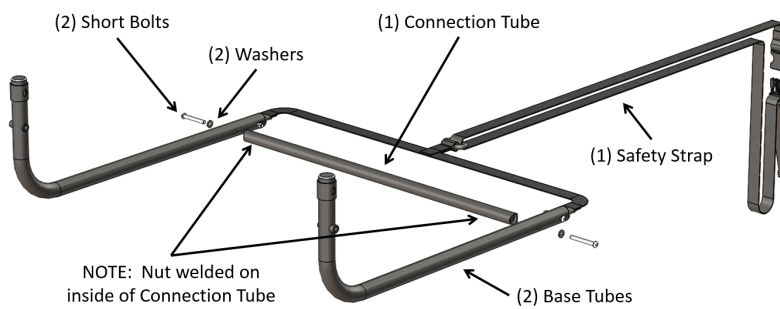

FIGURE 2
2. Use the ALLEN WRENCH to attach the CONNECTION TUBE to the BASE TUBES using the SHORT BOLTS and WASHERS as shown in Figure 2. NOTE: Nuts are welded on the inside of CONNECTION TUBE.